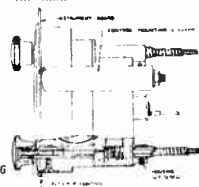

FIGURE 6
2. Fasten the control unit in place by means of the "U" clamp and nuts. (See Figure 6).